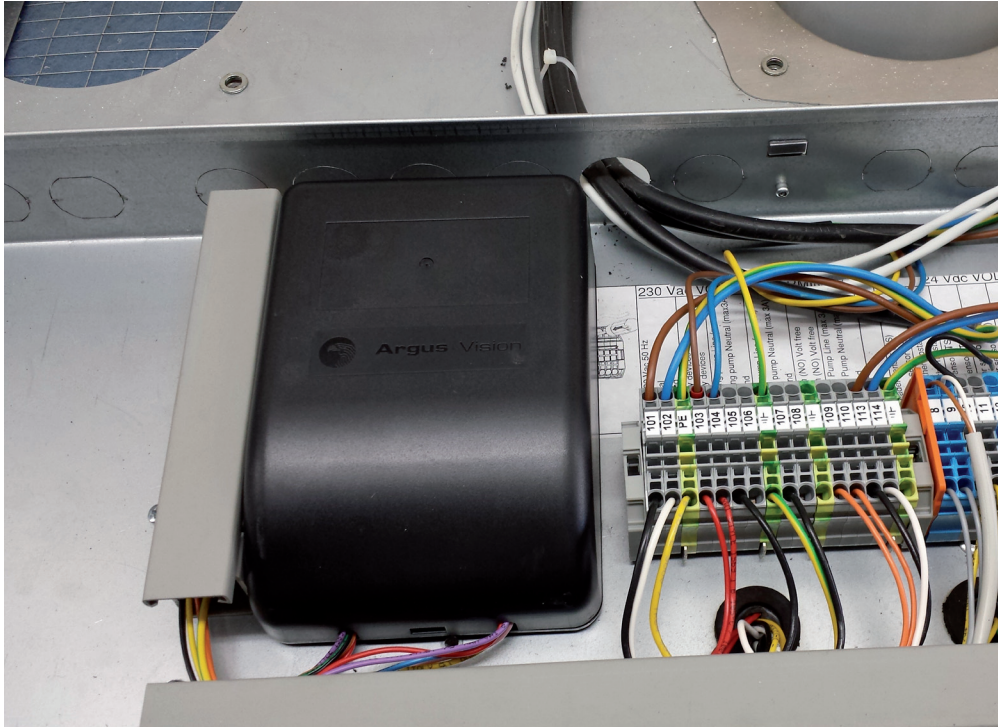

Figure 1-4 Managing heater # 1 Junction box
1. - Operating on the Managing heater # 1 only, gain access to the junction box (see Figure 1-4);